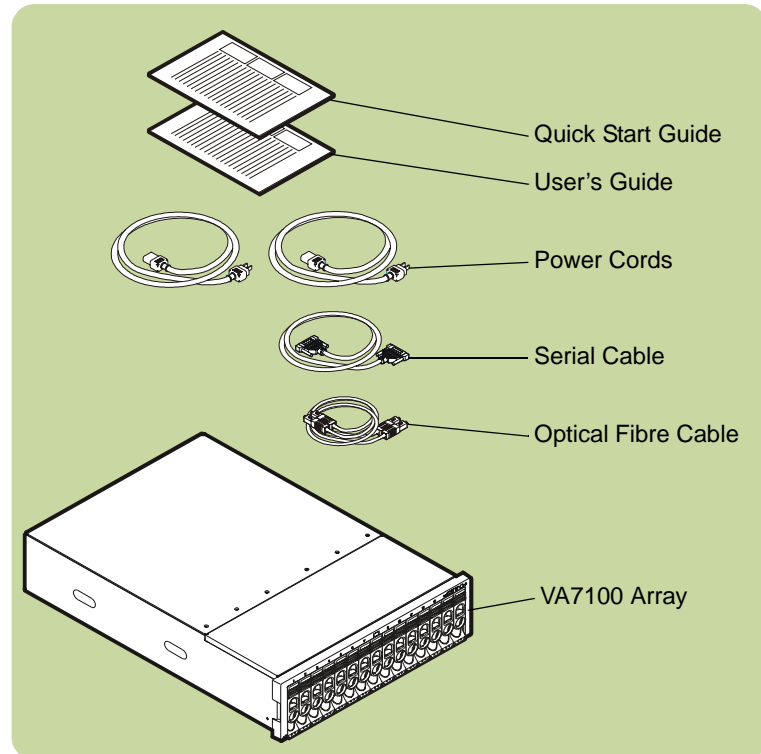

Fig. 5. Checking the shipping container contents
2. Check the contents of the shipping container (see Fig. 5).